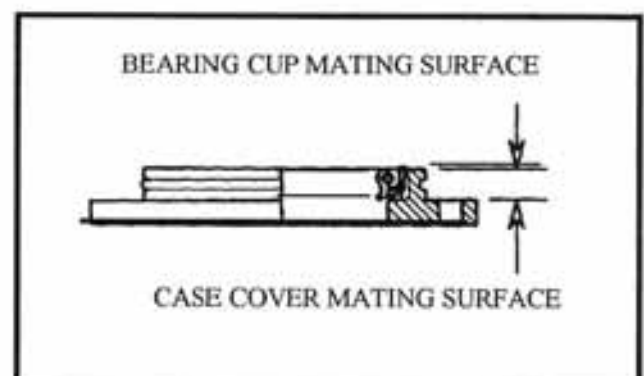

Figure 1-10. Measure taken from bearing retainer.
5. Measure the distance between the two bearing retainer (119) surfaces as shown in figure 1-10 and record.
7. Add .009 inch (.007-.010inch) to the measurement determined in step 6. This is the total thickness of the shim pack (122) to be placed on the output bearing cup.